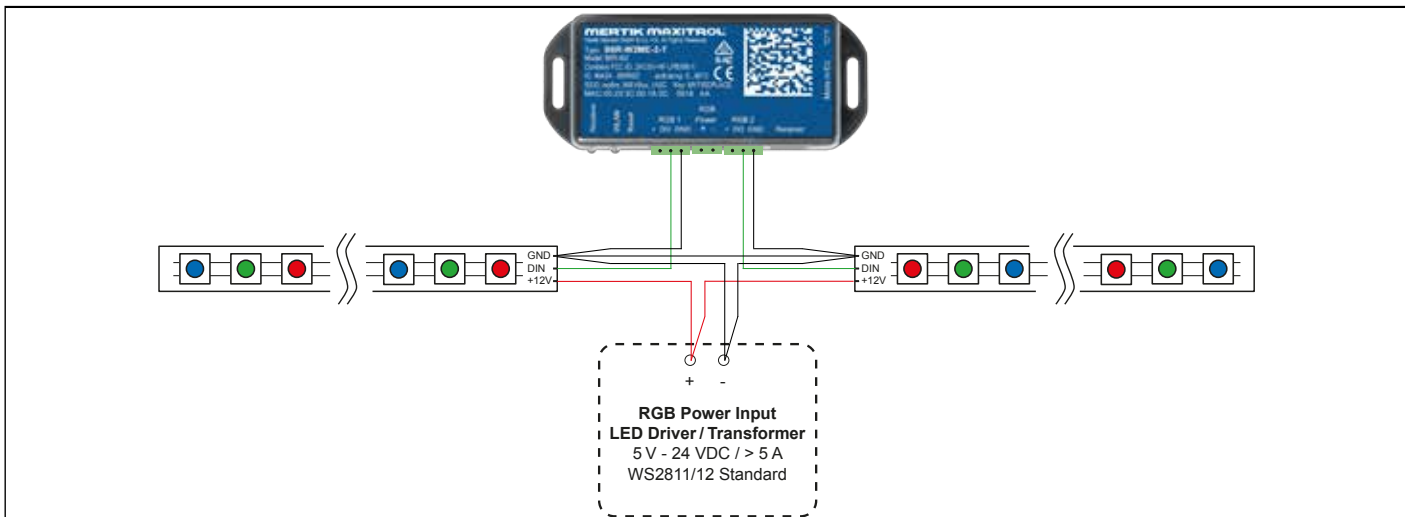

Figure 6: LED setup 2
- Connection of data output (DO) and ground (GND) from the LED RGB control output of the Wi-Fi Box to the RGB LEDs. (see figure 6)